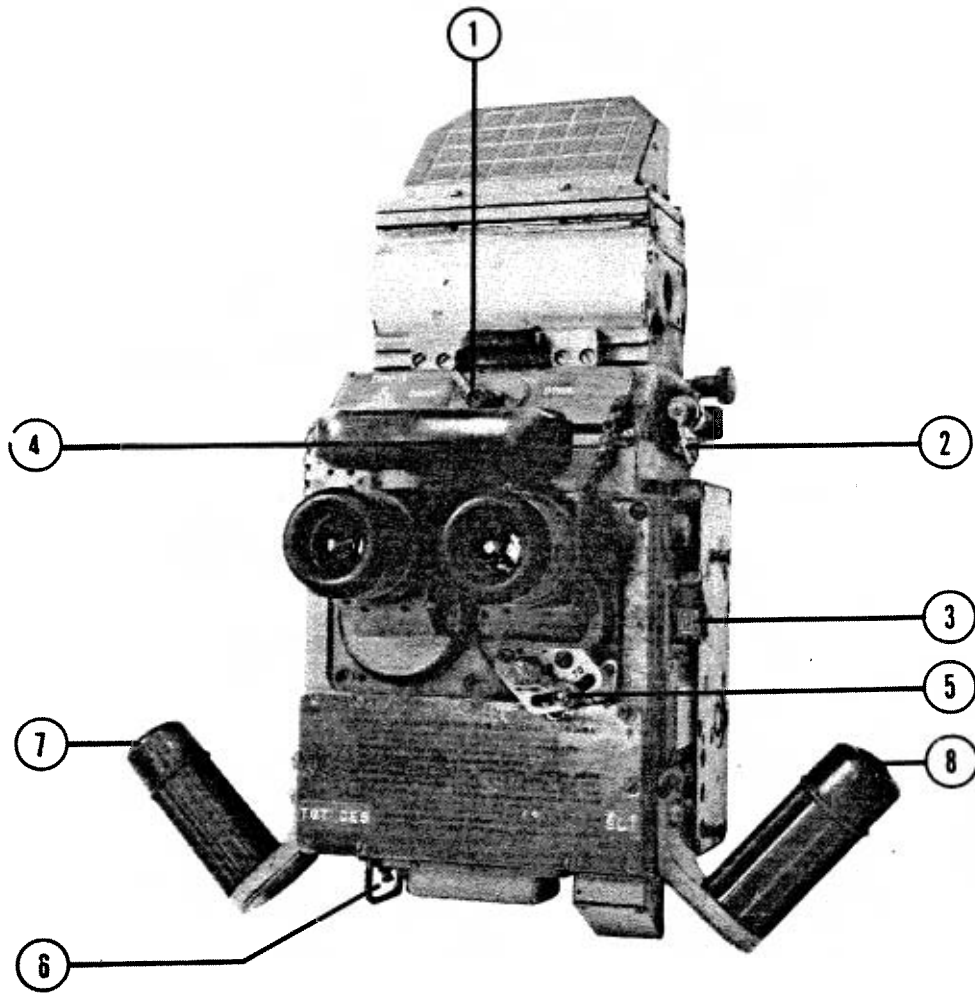

FIG. 3-86. TKN-3 PERISCOPE
(1) Place diaphragm and screen knobs in the "closed" (ZAKP) position.
(2) Place mirror control in night mode (H) (Fig. 3-86).
(3) Turn on TC's cupola power switch.
(4) Turn on TKN-3 power switch (Fig. 3-86).
(5) Move the diaphragm and screen knobs gradually until a greenish hue appears in the field of view along with an image of the terrain. Maintain minimal brightness. Do not continue operation in daylight for periods longer than 30 seconds.
(6) Return screen and diaphragm knobs to "CLOSED" (ZAKP) position and move the mirror control lever to "DAY" (A) mode.
(7) To check the TKN-3 at night, open screen and diaphragm knobs all the way and turn on the OU-3GK searchlight.
(8) To turn on the searchlight, the gunner flips the main searchlight toggle switch above the TSh2B-41U telescope. When the IR filter is installed on the searchlight, it should radiate a discernible amount of heat.